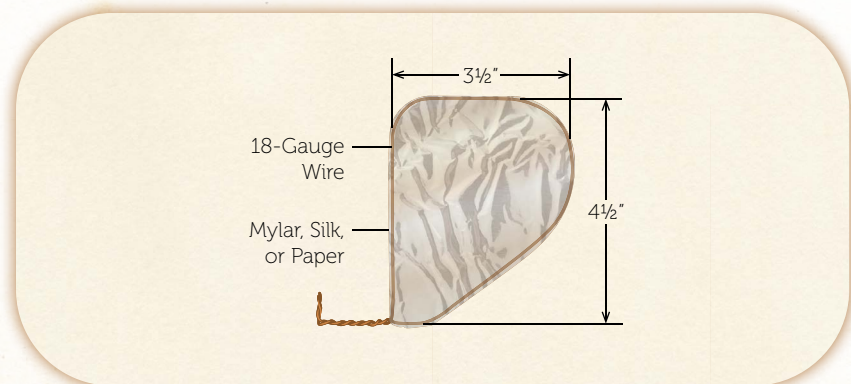
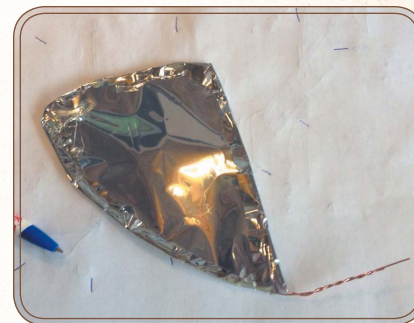

Figure 10.4: Diagram of the rudder
Figure 10.5: The completed rudder
1. Form the piece of 18-gauge wire into a general rudder-like shape that is about $4\frac{1}{2}$ inches from top to bottom, $3\frac{1}{2}$ inches from side to side, and has a projecting pin across the bottom as shown in Figure 10.4.
3. Next, you'll need to glue the silk, tissue paper, or Mylar to the wire form as shown in Figure 10.4. To do so, make shallow cuts in the covering at intervals so you can turn the fabric under and glue it neatly. Pull the fabric taut, then glue it into place. When you're done, your rudder should look a bit like Figure 10.5.